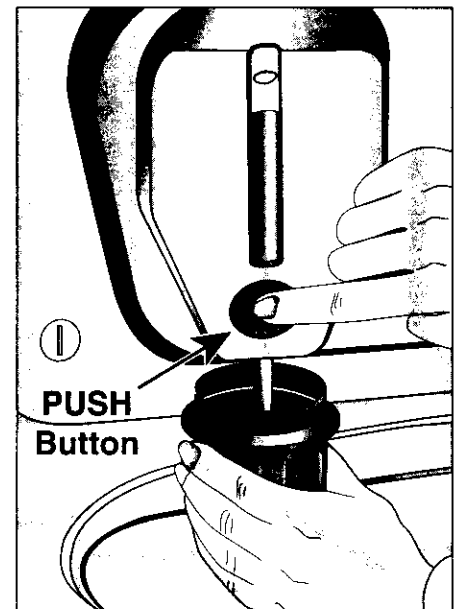

Figure 2
- 7) Place the cap of your detergent bottle under the "PUSH" button. Fill the cap with detergent from the dispenser as full as you would for most of your loads by pressing and holding the "PUSH" button (figure 2). Place the detergent from the cap either in the tub or back in the dispenser by removing the dispenser fill cap.